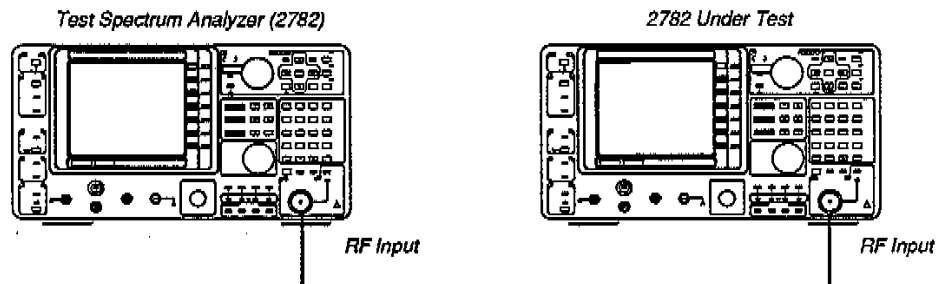

Figure 2-17. Test Equipment Setup for Local Oscillator Emissions Check
- b. Connect the test spectrum analyzer to the 2782 RF INPUT connector through a 50Ω cable (as shown in Figure 2-17).